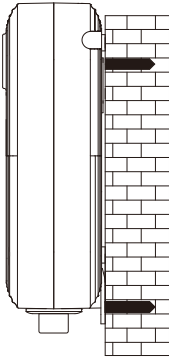
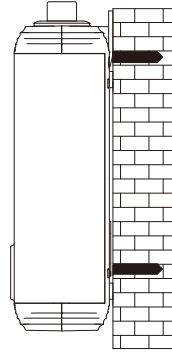

Figure 9
Figure 10
Step 5: Secure the appliance with a nail in the other hole to ensure the whole appliance is firmly installed. (Figure 9) (Figure 10).